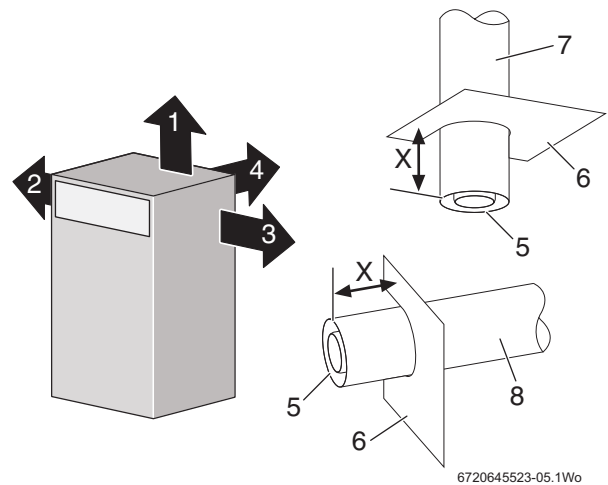

Fig. 10 Fluing options from the boiler
1. Add dimension "X" to the effective flue length (L) to allow the flue to fit to the outlet/elbow inside the boiler casing.
2. Refer to figure 10 and table 8 for dimension X for flue outlet options 1, 2, 3 or 4.
Table 8 Key to figure 10